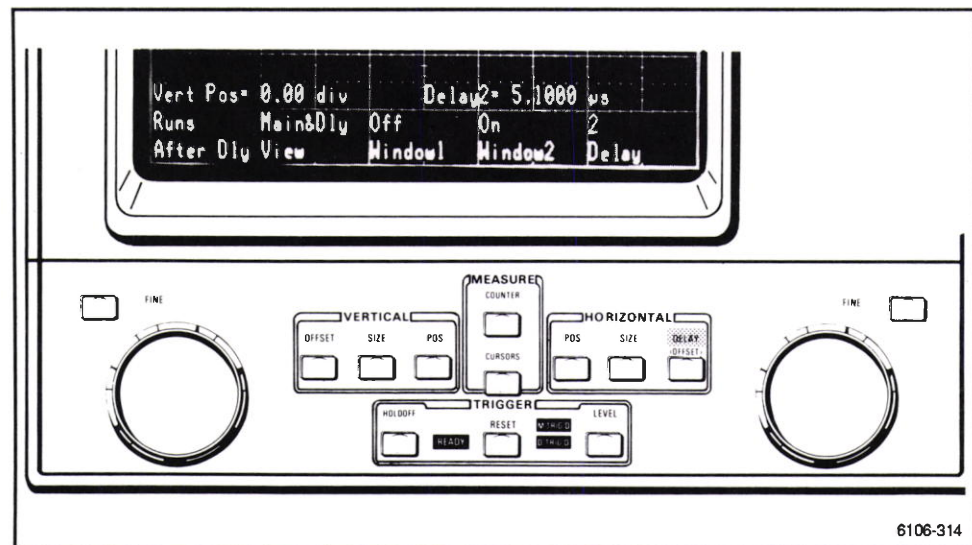

Figure 2-115. Delay menu with Window 2 set to On.
4. Press the DELAY button and from its menu select *Window2* to be **On**. (See Fig. 2-115.)